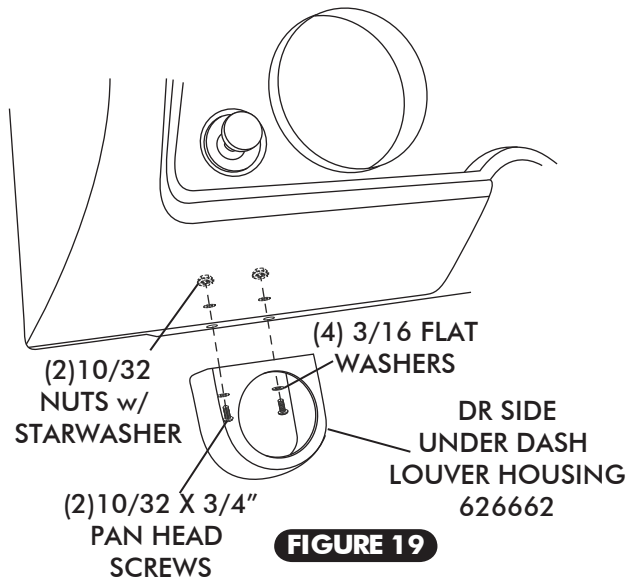

FIGURE 19
- ☐ SECURE LOUVER HOUSING UNDER DASH USING (2) 10/32 x 3/4" PAN HEAD SCREWS, (4) 3/16 FLAT WASHERS, (2) 10/32 NUTS w/ STARWASHER AS SHOWN IN FIGURE 19 BELOW.